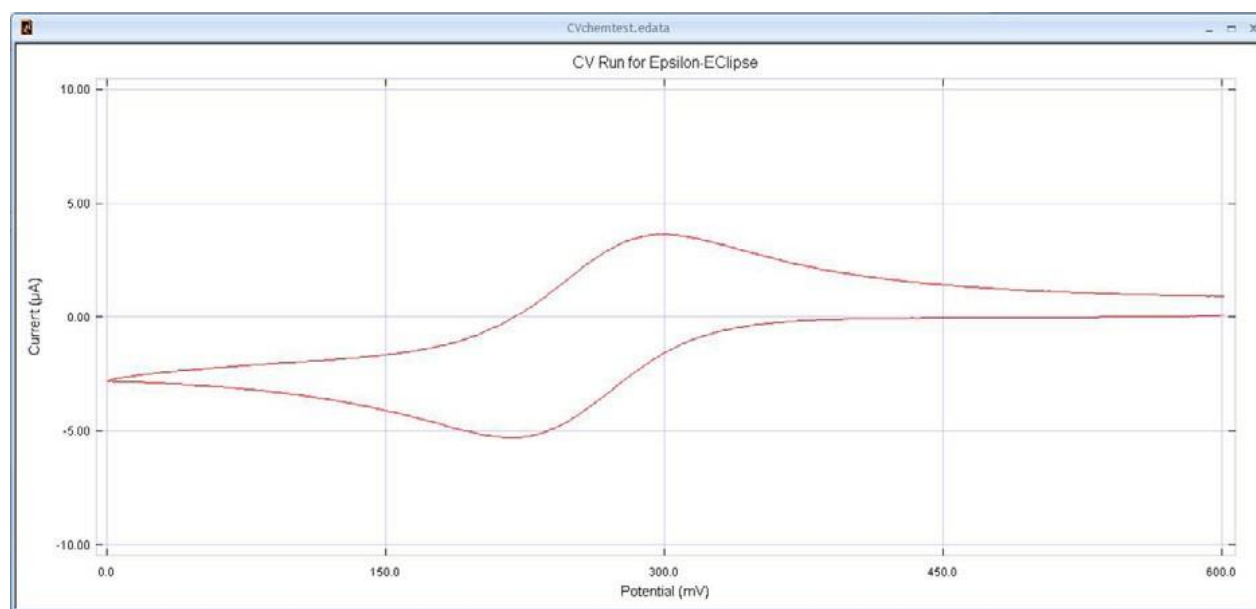

Figure 3 - Cyclic Voltammetry graph
5. After the experiment has been run, the voltammogram will be displayed (Figure 3). Note the information about the experiment and the peak parameters on the right side of the graph.